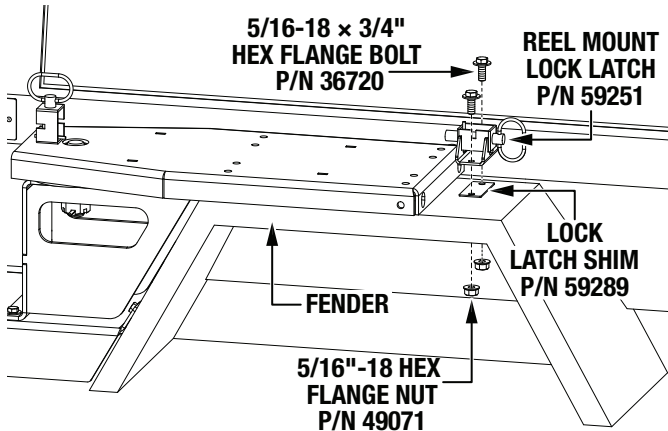

Figure 26. Reel Mount Lock Latch Installation
- Secure the reel mount lock latch (P/N 59251) to the fender with the two 5/16-18 x 3/4" hex flange bolts (P/N 36720) and two 5/16"-18 hex flange nuts (P/N 49071). Place lock latch shims (P/N 59289) between the reel mount lock latch and fender as needed to keep the lock latch pin lined up with the hole in the right reel mount (P/N 59275). See Figure 26.